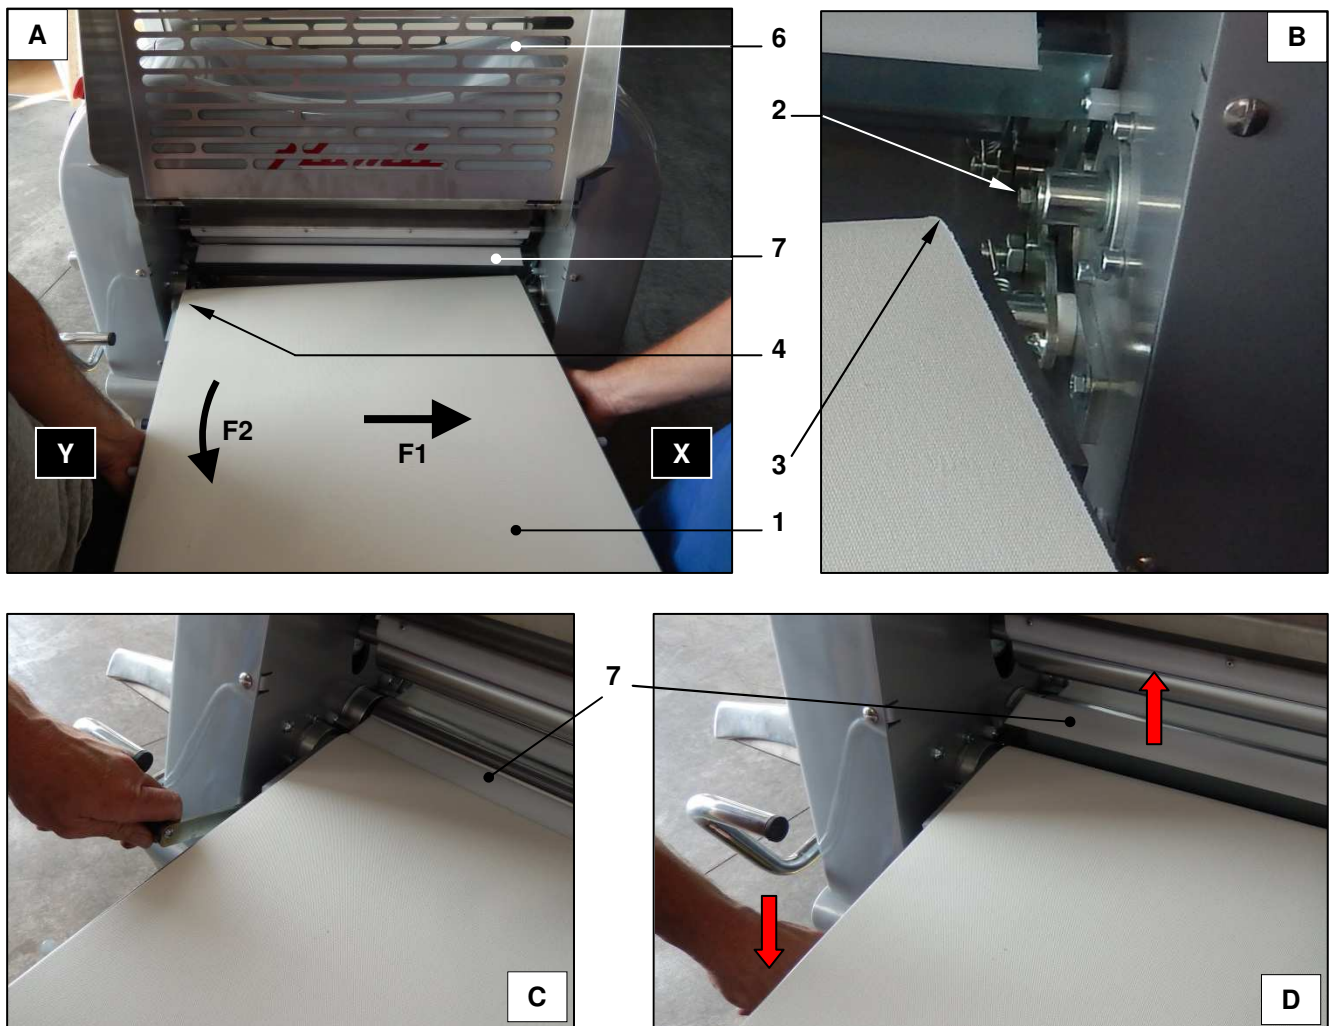

Figure 13 - Removing the benches (SF600 only)
With reference to Figure 13, raise the guard ref. 6 completely (section 3.5.2) on the side on which the table is to be removed (photo A) and remove the scraper ref. 7 (section 4.5 and section 4.5.2.3). The operators must position themselves at the side of the table and hold it at points far enough apart so that it can be easily supported once it has been released.